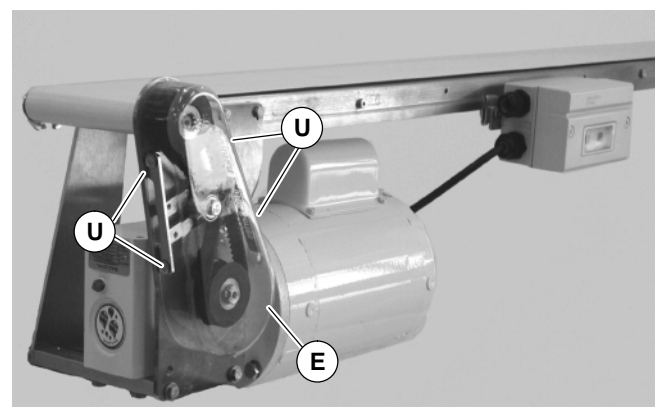

Figure 20
- Remove four (4) screws (U of Figure 20) and remove cover (E).